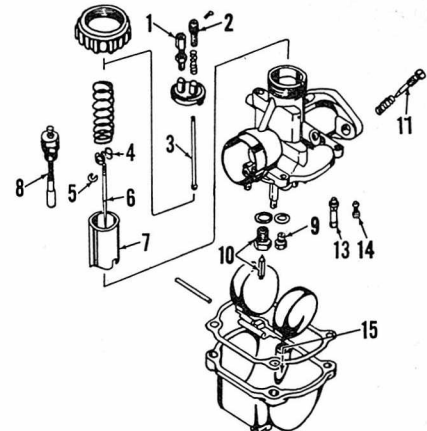
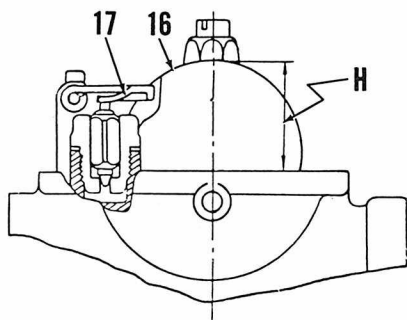
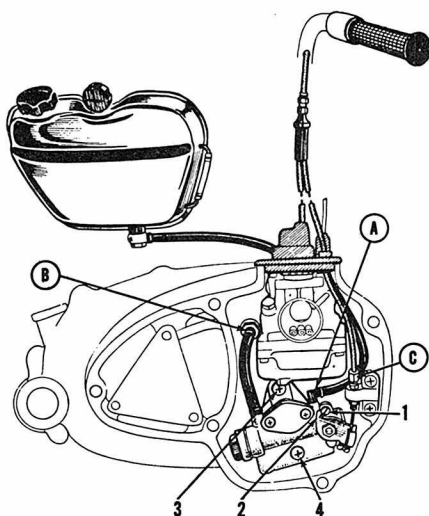

Fig. K1-1—Exploded view of Mikuni VM carburetor typical of type used.
Fig. K1-2—Float level (H) is adjusted by bending tang (17).
Fig. K1-4—Drawing of "SUPERLUBE" oil injection. Refer to text for adjusting.
**CARBURETOR.** A Mikuni VM17SC carburetor is used on J1 and D1 models, VM18SC is used on C2 models. Fig. K1-1 shows idle speed (2) and idle mixture (11) adjustment points. Normal setting is 1 1/2 turns open. Clip (5) should be installed in third groove from top of needle (6). Float level (H—Fig. K1-2) should be 18MM (3/4 inch) and is adjusted by bending tang (17) on float. Refer to Fig. K1-1 and the following for recommended jet sizes.
started. Allow oil to flow from inlet line (A—Fig. K1-4) before attaching to pump inlet connection. Disconnect outlet oil line (B) at the check valve on rotary valve cover, then operate kick starter with key turned off and throttle open until the outlet line is full of oil. Reconnect oil line to check valve.
To adjust the pump control cable, turn the throttle grip to idle position and check to make certain that throttle cable does not have any free play. Throttle cable free play should be removed by turning cable adjuster (1—Fig. K1-1) but make certain that throttle is not partially open. Turn the pump cable adjuster (C—Fig. K1-4) until clearance between screw (1) and control arm (2) is 0.35MM (0.014 inch). After cable adjusters are correctly set, tighten lock nuts.
To remove the oil pump, it is necessary to remove the carburetor, kick starter pedal and the clutch (engine right side) cover. The pump can be removed after removing the drive gear (inside the clutch cover) and the two mounting screws (3 & 4—Fig. K1-4).